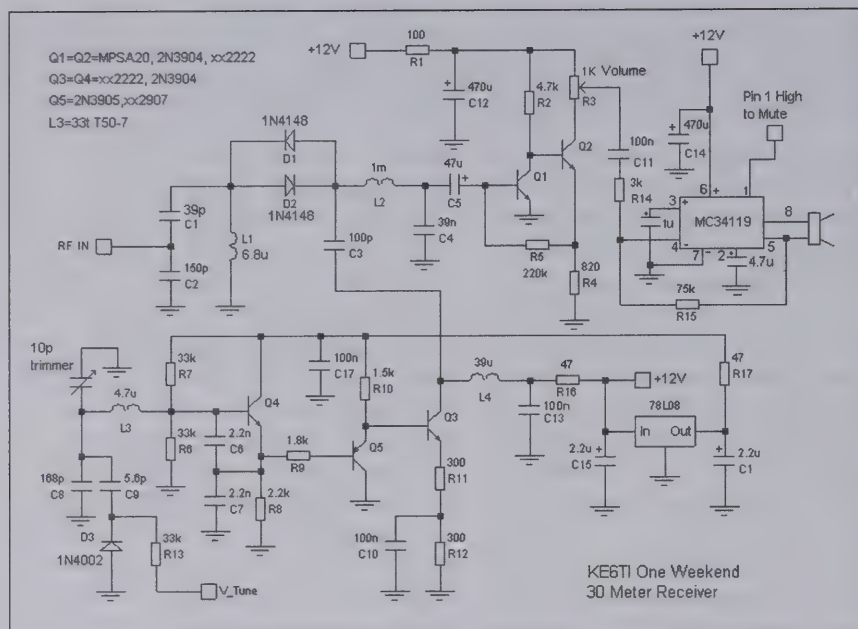

Figure 3—The weekend receiver schematic.
The receiver, a direct conversion type, started with an idea gleaned from a presentation by Rev. George Dobbs, G3RJV, at FDIM 2005, and documented in the Proceedings. One of the circuits he mentioned was the two-diode frequency-doubling mixer, which is a circuit in which the local oscillator (LO) is injected at half the working frequency. The mixer then doubles the injection frequency. The advantage is that the LO does not run at the signal frequency, and is thus immune to pulling. I had seen the circuit before, but had never tried it. This seemed like the opportunity. Figure 3 is the resulting receiver schematic.